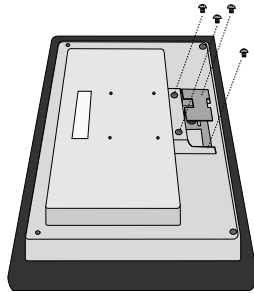

Figure R.2
4. Remove the 4 screws connecting the monitor to the stand and lift off the stand, assembly (**Figure R.2**). The monitor is now ready for mounting in an alternate manner.